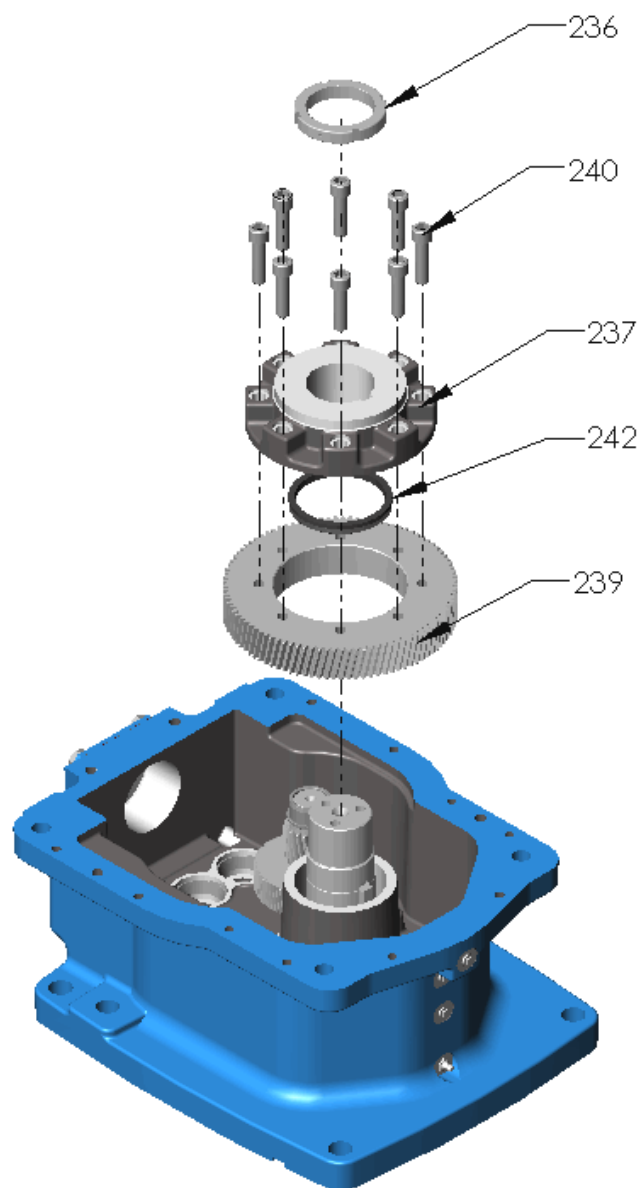

Figure 17 – Gear Carrier
- H. Install V-ring **[242]** in gear flange **[237]** and heat flange to 120° C (248° F) (refer Figure 17).
- I. At output shaft **[244]**, install the following items: (refer Figure 17).
- J. Lift gear **[239]** to engage tenon on the flange and install bolts **[240]** (refer Figure 17). Make sure the gear is sitting flat on the gear flange. Use feeler gage to check
- K. Torque-tighten bolts **[240]** to value given in Table 1 (refer Figure 17).